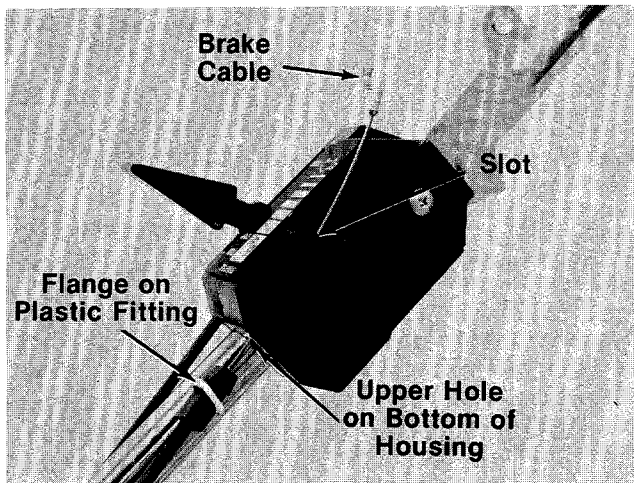

FIGURE 4.
6. Route the brake cable under the lower handle. Place the end of the brake cable into the upper hole on the bottom of the control housing, and through the slot as shown. The angle of the flange on the plastic fitting must be positioned as shown in figure 4. Be careful not to bend or kink the cable.